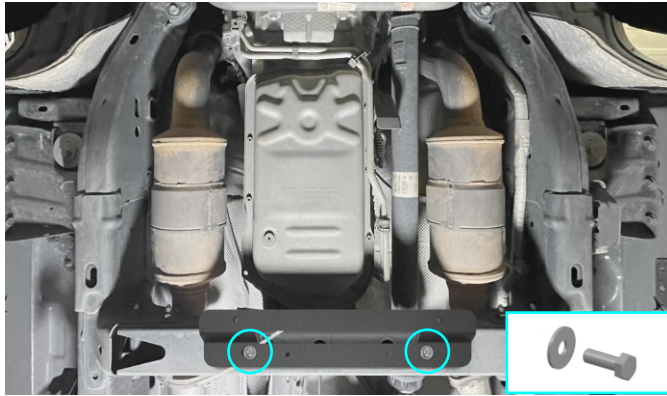

Fig. 7
7. Install rear bracket (item 4) as shown in fig.7&8 using bolts M10x30 and flat washers M10 (items B, C).